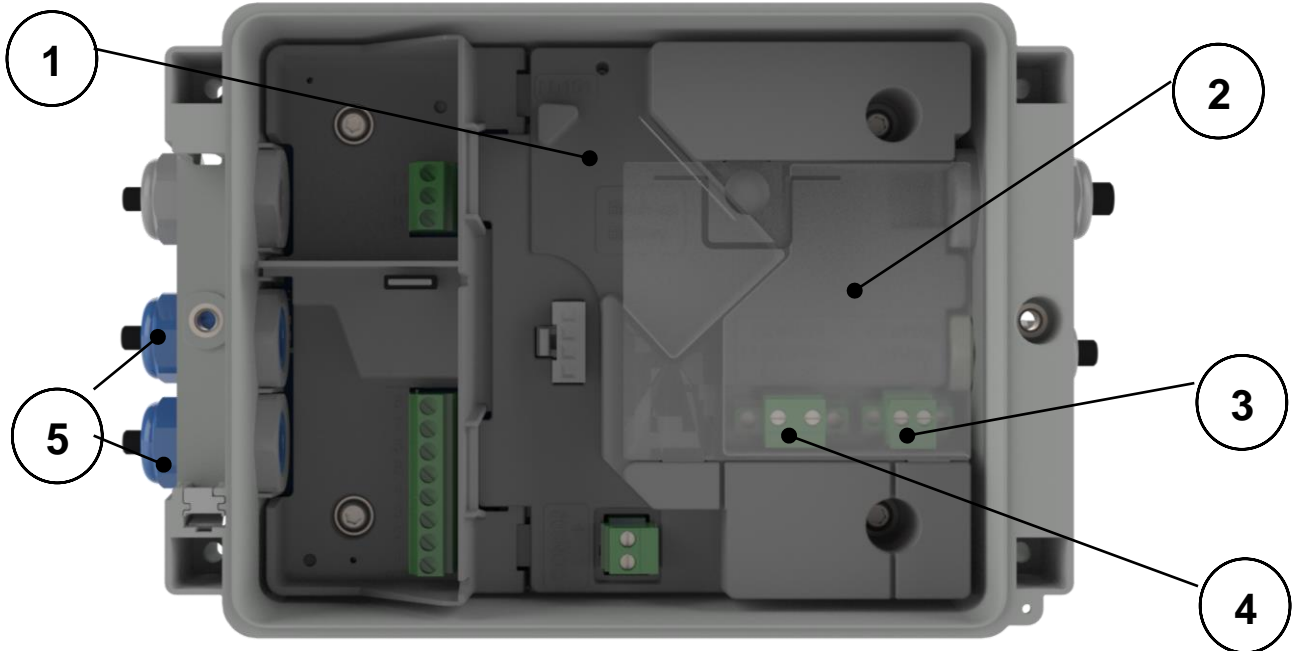
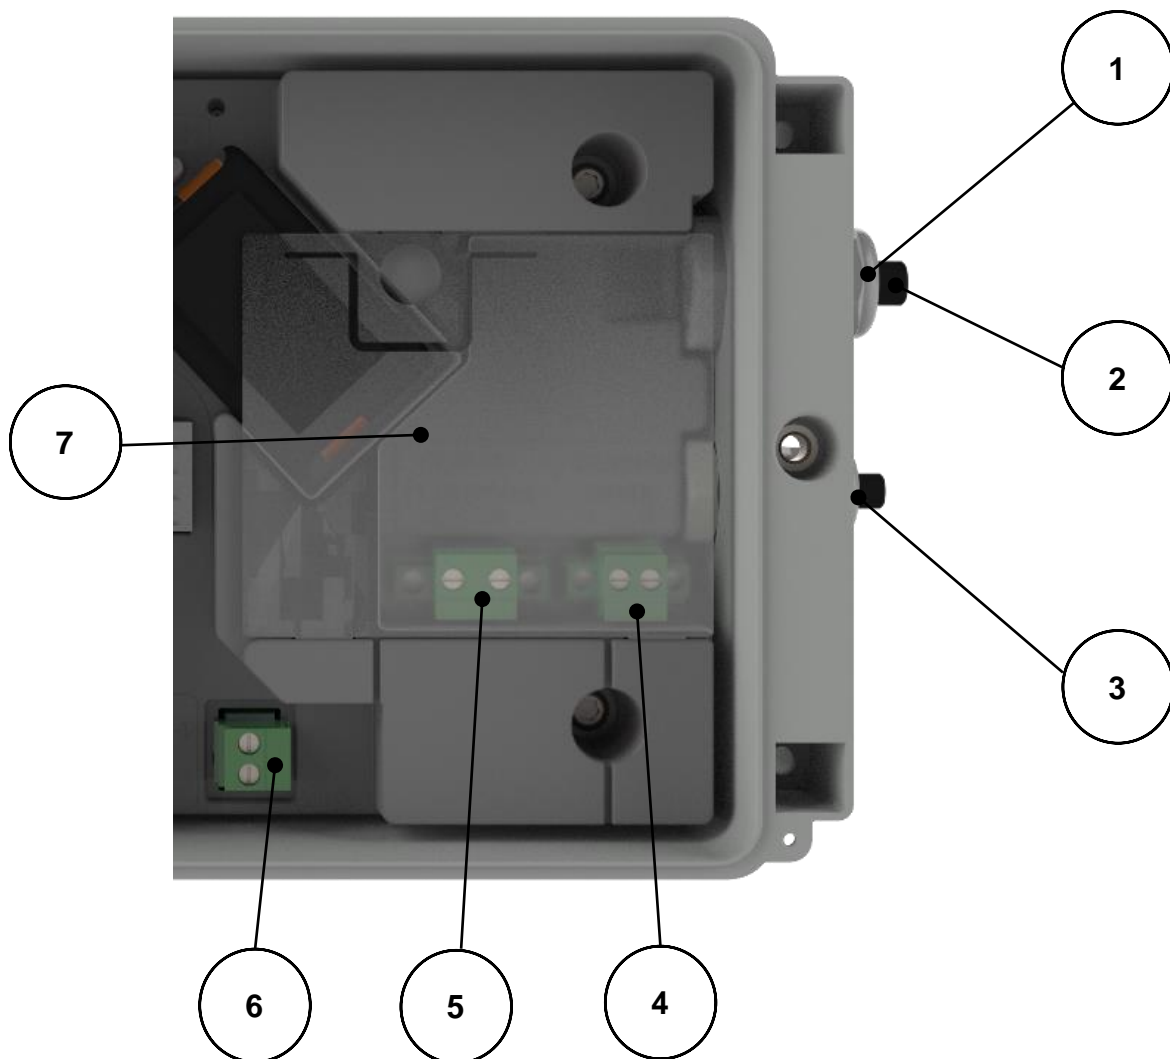

Figure 1
Figure 6
Additional instructions on explosion safety, see figure 1:
3. If a mounted cable is to be removed and reinstalled, for any reason whatsoever, check to see whether the cable is installed correctly, whether there are any loose wires and whether the cable gland has been properly tightened. Also check to see whether the Ex protective cover (2), see figure 1, has been put in place.
4. The mains or external DC voltage should first be removed or switched off for all actions that involve loosening the Ex protective cover (2).
8. Optionally, a back-up battery can be installed. Only an original Wigersma & Sikkema back-up battery pack, type NN2758, may be installed. Installing requires loosening of the Ex protective cover (2), see instructions at point 4.
Only reconnect mains when all cables are connected and the Ex cover (2) has been put in place, see figure 1.
Only connect the mains voltage if all cables are connected. If the connections are changed, check that the mains voltage is not present and that it is ensured that the mains voltage cannot be switched on. Always place the Ex-protection cap (fig.1, 2 or fig. 6, 7) over the mains connection.
Mains operated UNICOM 300 can also be powered by 24V (15 - 32VDC). The 24V connection is recognizable by the 24V label, and this label must be removed when connecting the 24V. Make sure that the + and - are connected correctly. Incorrect connections will cause the fuse to blow. The device must then be sent to W&S for repair. See also (4) in figure 6.
2. Insert the power cable through the appropriate cable gland (Fig. 6, 1).
3. Connect the power cable to the 230 VAC or 24 VDC terminal in the UNICOM 300 (fig. 6, 5).
4. Screw the terminal and the cable gland tight and fit the Ex-protection cap (fig. 6, 7).
5. Connect the power supply for UNIGAS 300 (Fig. 6, 6) (optional).